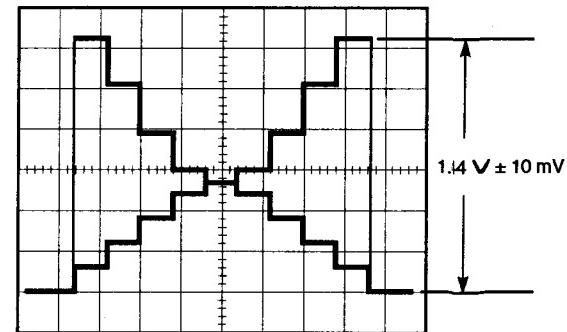

Fig. 5-1-29
- Adjust VR110 so that the Video signal level becomes $1.44 V \pm 10$ mV as shown in Fig. 5-1-29.
- Adjust VR210 so that the Video signal level becomes $1.44 V \pm 10$ mV as shown in Fig. 5-1-29.
- Adjust VR310 so that the Video signal level becomes $1.44 V \pm 10$ mV as shown in Fig. 5-1-29.